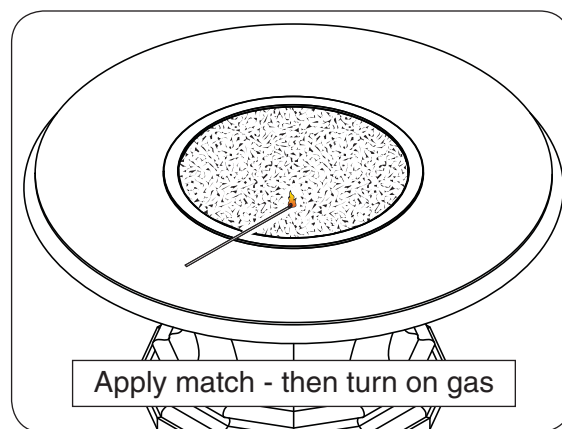

Fig. 35-1
3. Lay a lighted long-stem match on the surface of the decorative media near the burner (**do not hold the match in your hand**) or use a lighted long-necked butane lighter (Fig. 35-1).